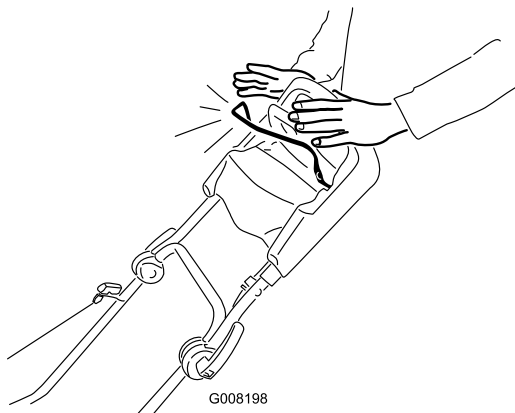

Figure 18
1. Release the blade control bar (Figure 18).